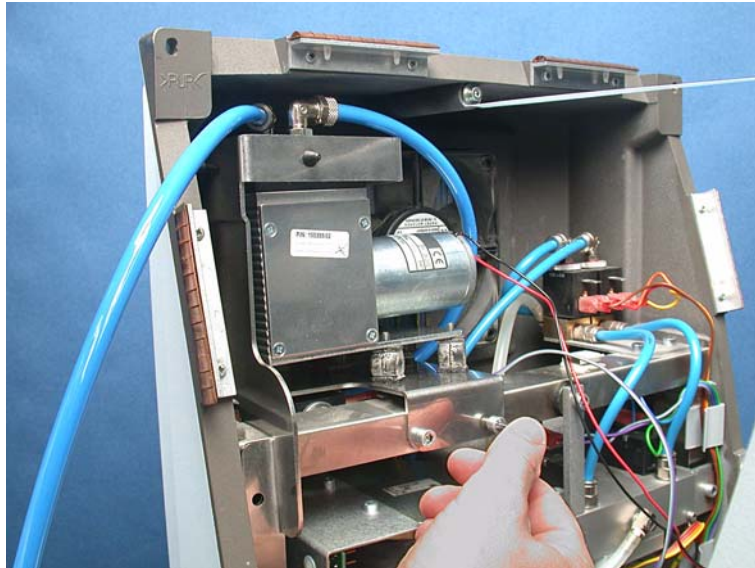

Figure 11-171. Unscrewing the nebulizer compressor
8. Unscrew the two hexagonal-drive (Allen) screws securing the nebulizer compressor to the chassis. (Figure 11-171.)